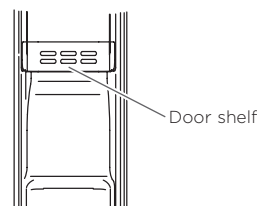

Fig.13 Installation of extra door shelf
- Turning the ice maker off and removing the icebox enables extra space for food storage. Install the additional door shelf at the position above the inlet on the freezer door (Fig.13).